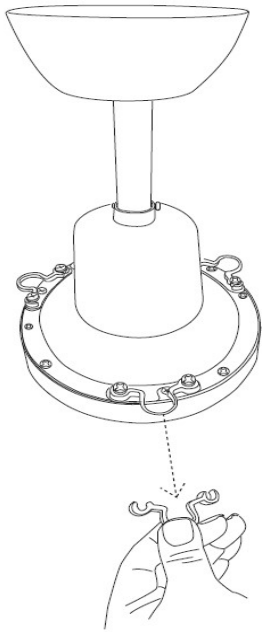

Fig. 1
1. Remove the plastic shipping stabilizer tabs as in Fig. 1,